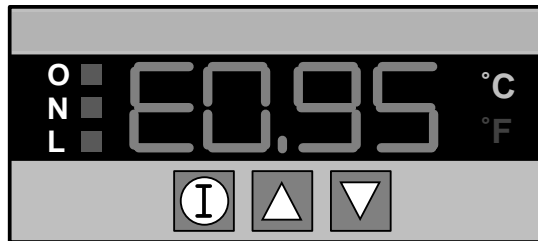

Figure 7: Emissivity Display
1. In temperature mode display, press the  button until a display similar to Figure 7 appears. (The "E" will be followed by numbers designating the emissivity.)